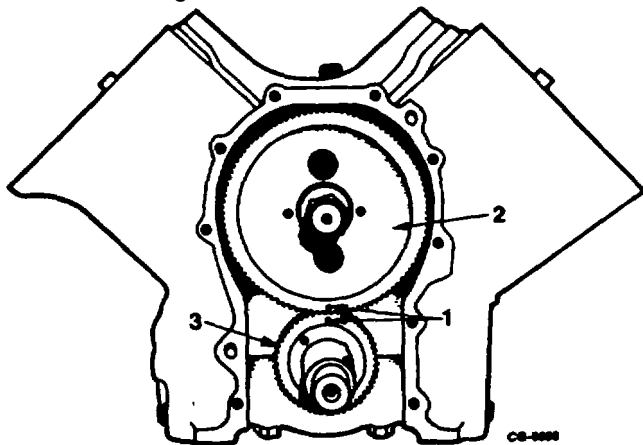

Figure 61. Aligning Timing Marks on Camshaft and Crankshaft Gears
3. Align timing marks on camshaft gear and crankshaft gear (Figure 61) and position camshaft into camshaft bushings. Remove installer tool.